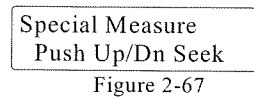

Figure 2-67
- a. Press the  key. The LCD displays the message as in figure 2-67.